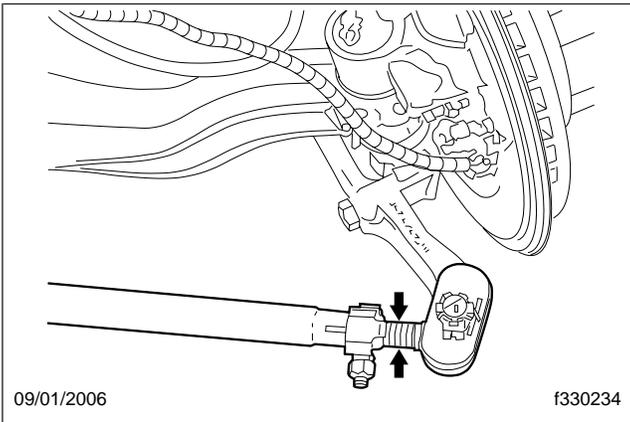

Fig. 3, Checking Tie Rod End Movement
4. Position yourself directly below the ball stud socket. Using both hands, grab the end as close to the socket as possible, no more than 6 inches (15.2 cm) from the end. Firmly apply about 100 pounds of hand pressure in an up and down motion several times. When moving the assembly, check for any movement at both tie rod ends. See **Fig. 3**.